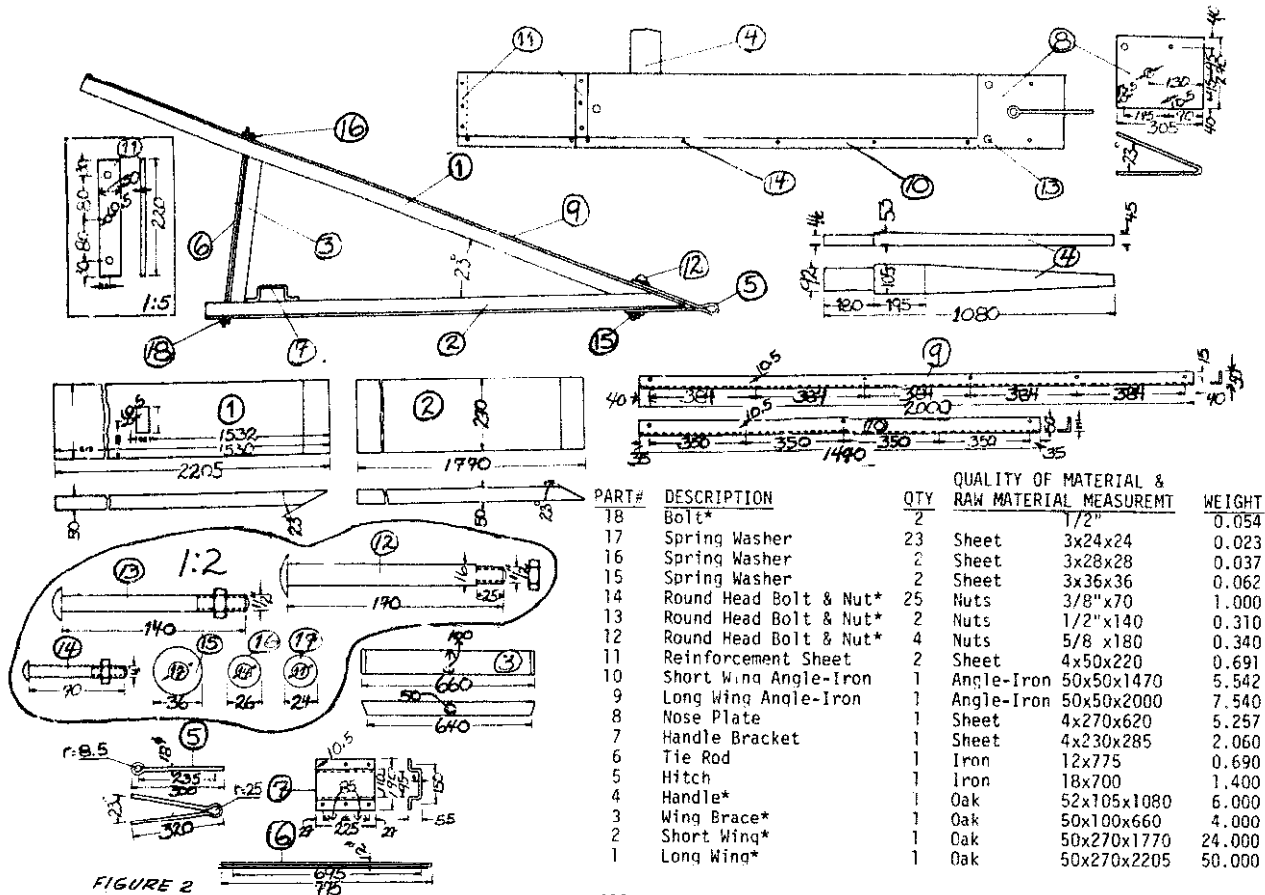

FIGURE 2
**The** V-Drag (Figure 1) is used for making ditches for irrigation and drainage of fields and roads. It can also be used to make levees (banks) or borders for border irrigation. The V-Drag can be made locally by carpenter-blacksmiths or small manufacturers if materials are available. (See Figure 2 for list of materials and construction details.)